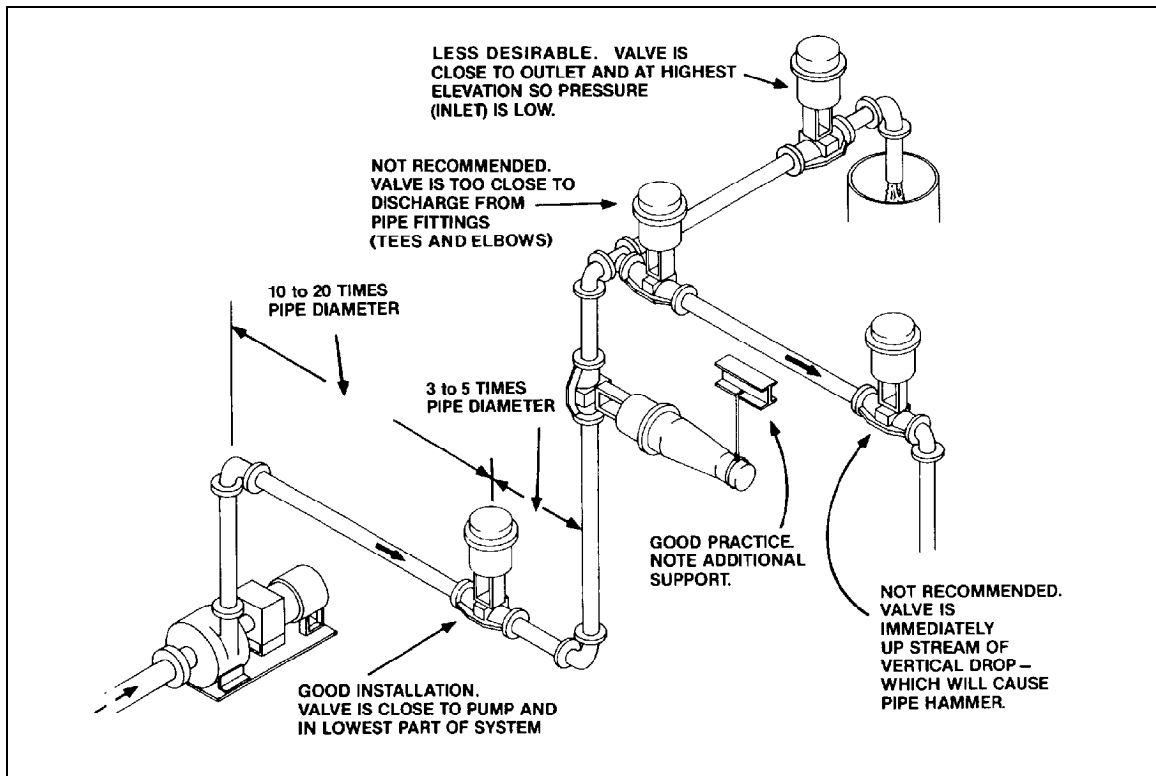

fig 1
3. Allow a straight run into and out of throttling valves. A good rule of thumb is 10 to 20 pipe diameters up stream, and 3 to 5 pipe diameters down stream. (Refer to Fig. 1)